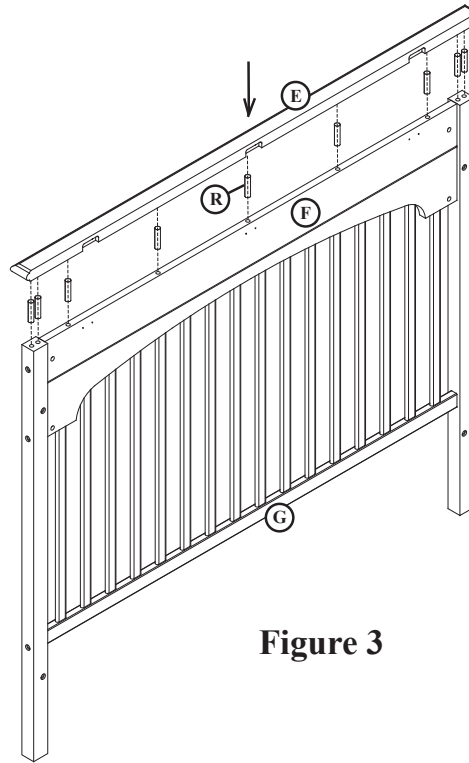

Figure 3
Attach the Back Rail Top(E) to the back rail using wood dowels (R), see Figure 3.